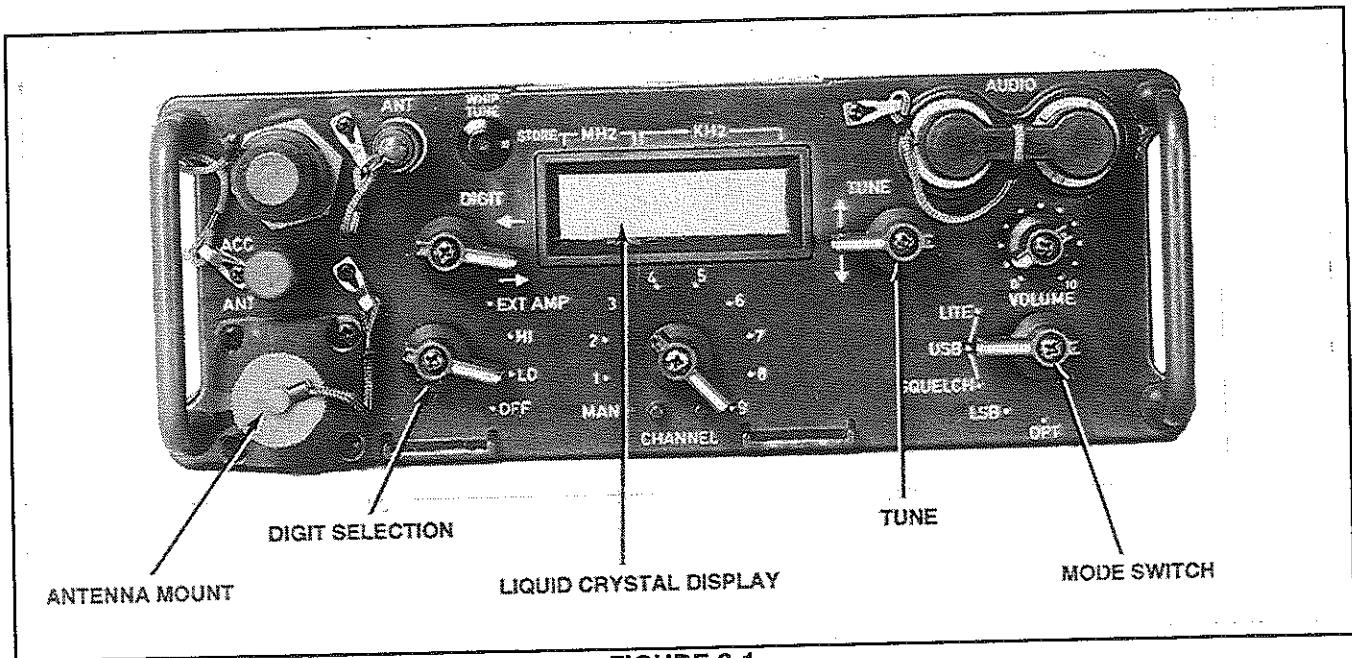

FIGURE 3-1.
- a. Remove the cover from the ANT mount (Figure 3-1).
3-1. Transceiver, Radio PRC1099A, Controls, Indicators and Connectors (Figure 3-1)